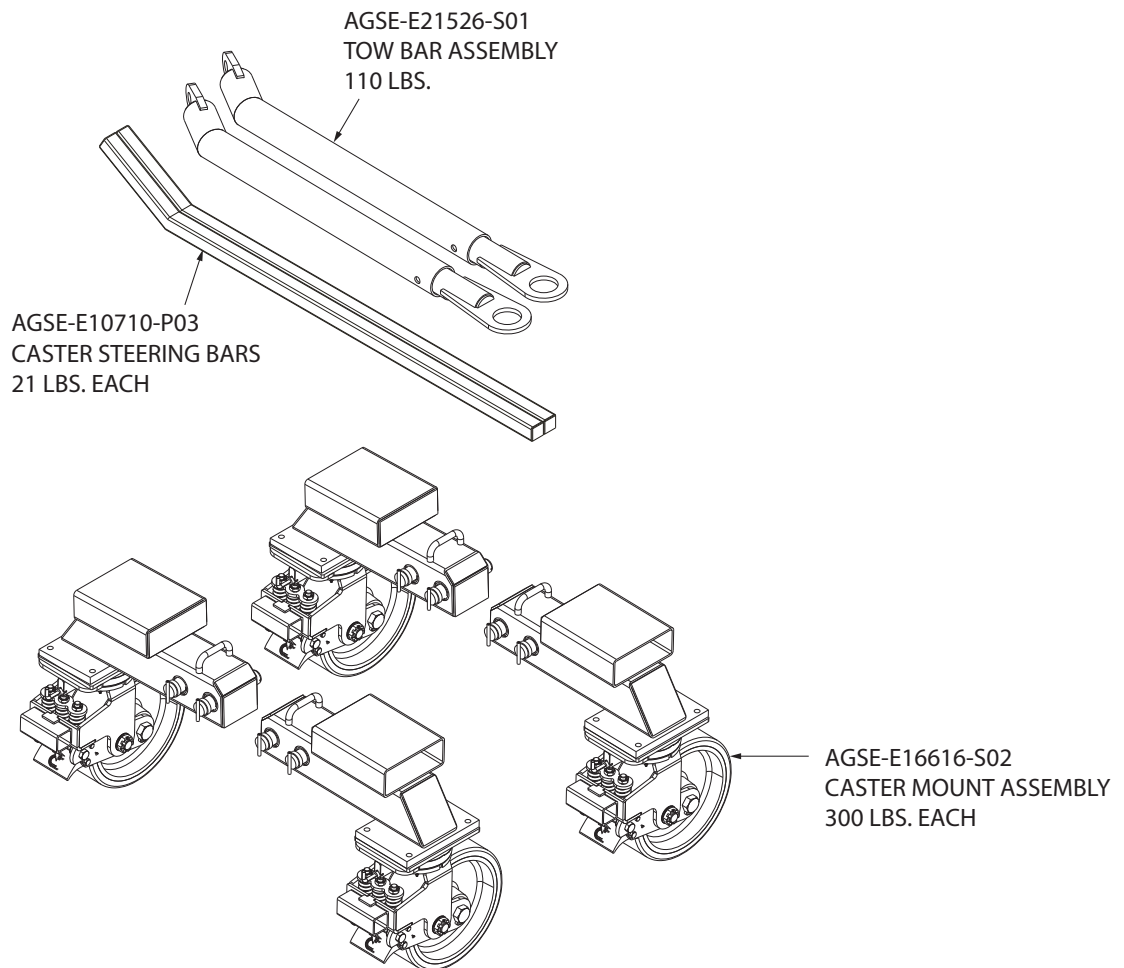

Figure 3.7-1 Caster Steering Bars and Tow Bar Kit
3.7.1 Caster and Tow Bar Kit (Figure 3.7-1)